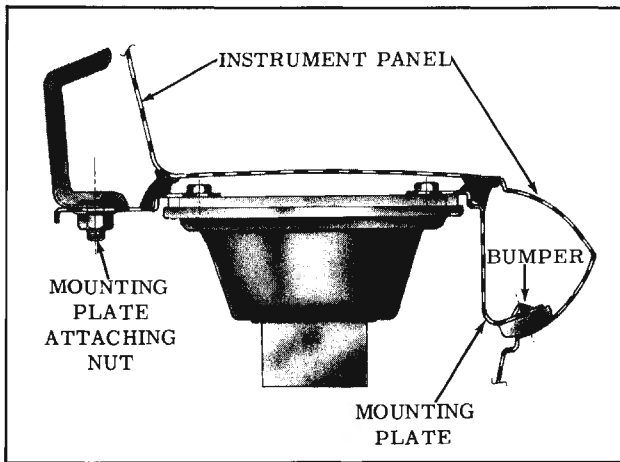

Fig. 13-137 Speaker Attachment
2. Remove the two speaker mounting plate to body mounting bracket nuts. (Fig. 13-137) Speaker will then pivot downward for removal.
Position the two rubber mounting bumpers at front edge of speaker mounting plate on instrument panel and pivot speaker assembly upward over studs at body mounting bracket and install two retaining nuts. (Fig. 13-137)